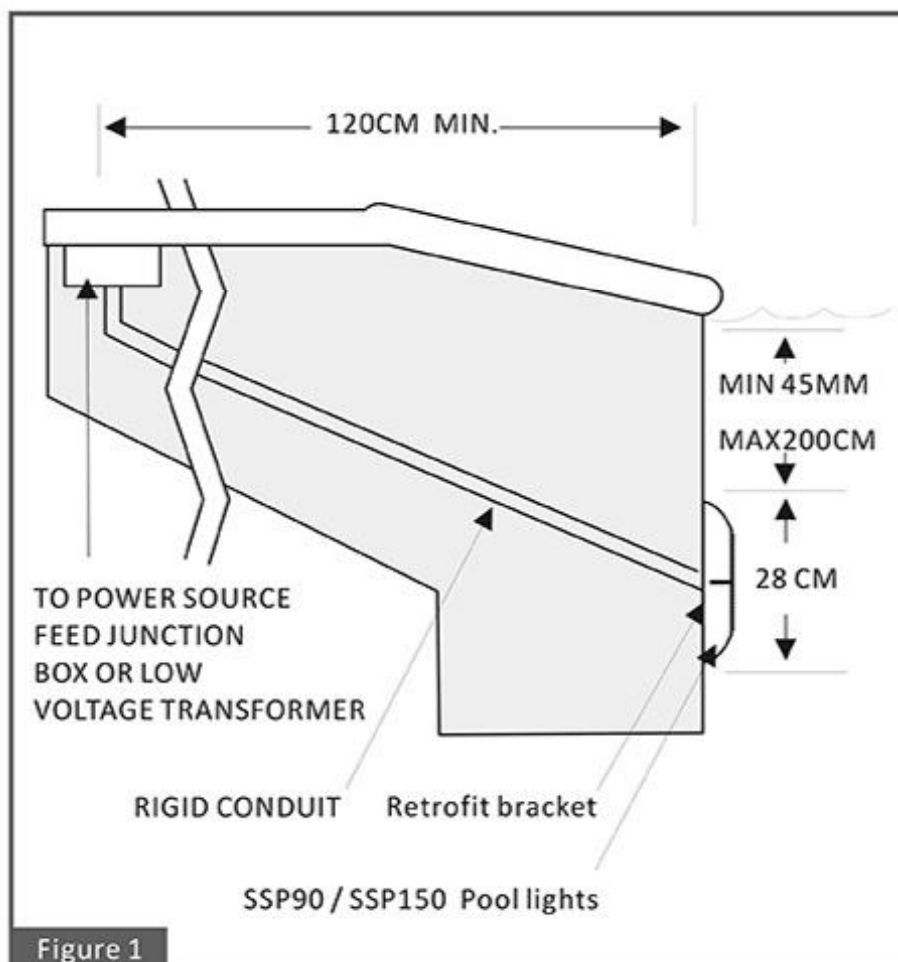

Figure 1
A: Preparatory steps which must be completed by the electrician or pools builder before lights is installed see Figure 1:
The mounting bracket must be properly installed so that the edge of the face plate of the underwater light's LEDs are at least 45 cm below the surface of the water in the pools, (Fig 1)
1. Locate position on the vertical wall where lights are to be installed. The edge of the face plate must be 40~50 cm below normal water level, see Figure 1